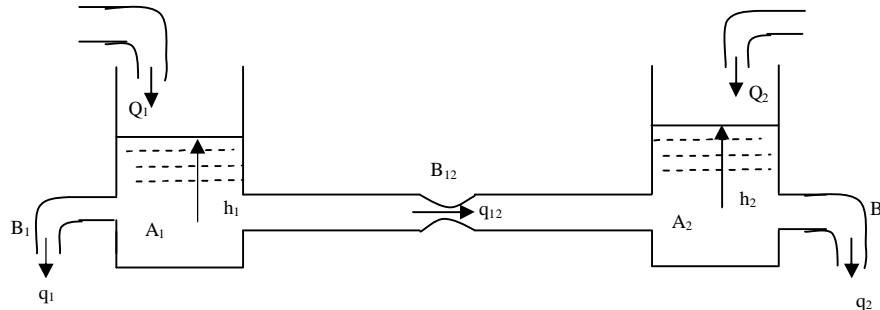

fig.1
1. Consider the hydraulic system shown in fig.1. Derive state space equations for the system with water levels  $h_1$  and  $h_2$  in the two tanks as the state variables  $x_1$  and  $x_2$  respectively and discharges  $q_1$ ,  $q_{12}$  and  $q_2$  as the outputs  $y_1, y_2$  and  $y_3$  respectively.